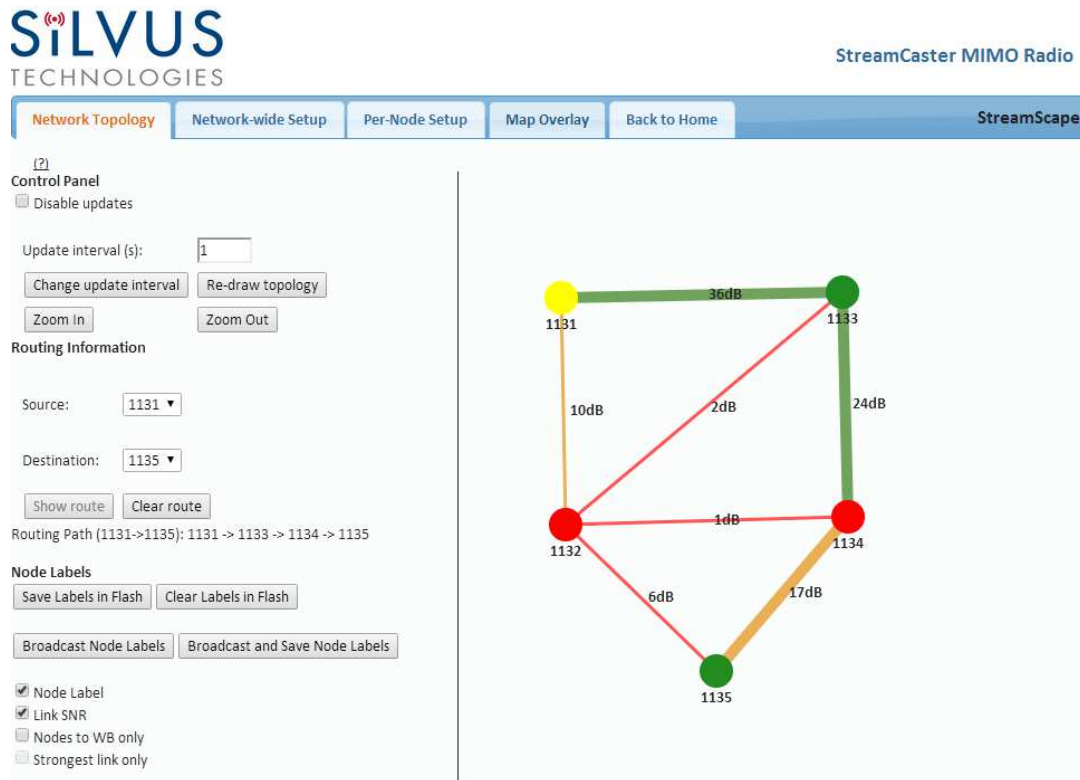

Figure 27 Routing Path
- **Routing Information** – The user can determine the routing path between any 2 nodes within a network by simply specifying the source and destination node in the Control Panel on the left hand side. The path will turn bold as shown in **Figure 27** for the path from ‘1131’ to ‘1135’.